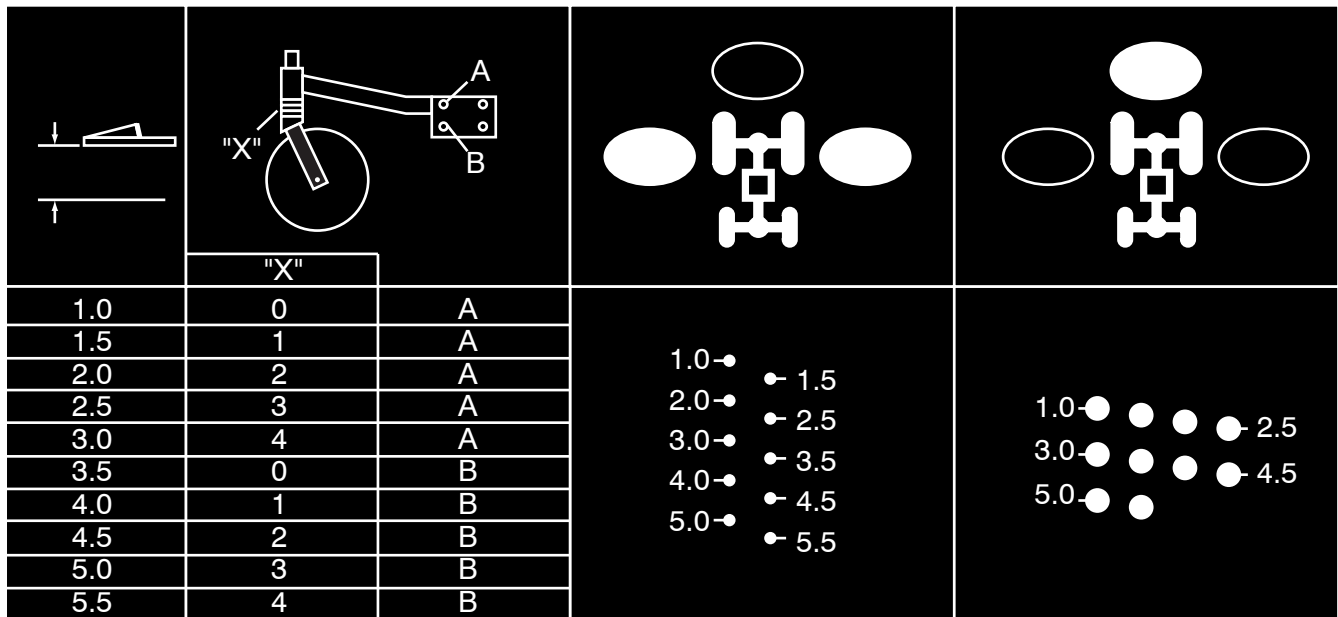

Figure 3M
2. Figure 3M shows the height adjustment decal for the casters.